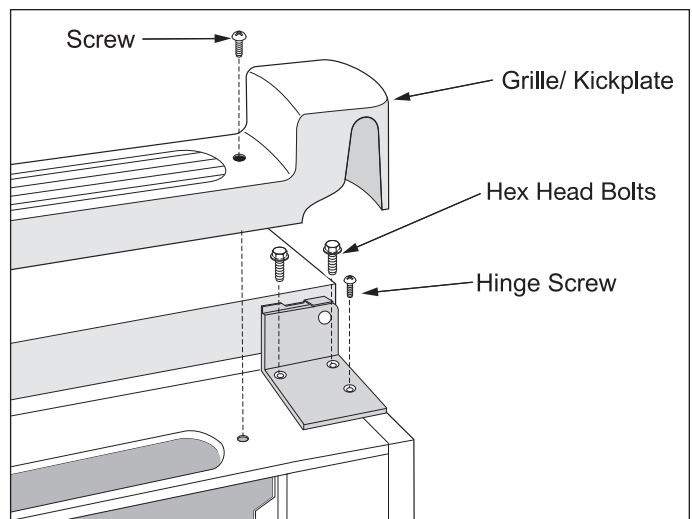

Figure 6-4. Lower Hinge Removal
5. Using a 3/8" socket or wrench, extract the two bolts securing the lower hinge to the unit frame. Use a phillips head screwdriver to extract the remaining screw from the lower hinge assembly. (See Figure 6-4)